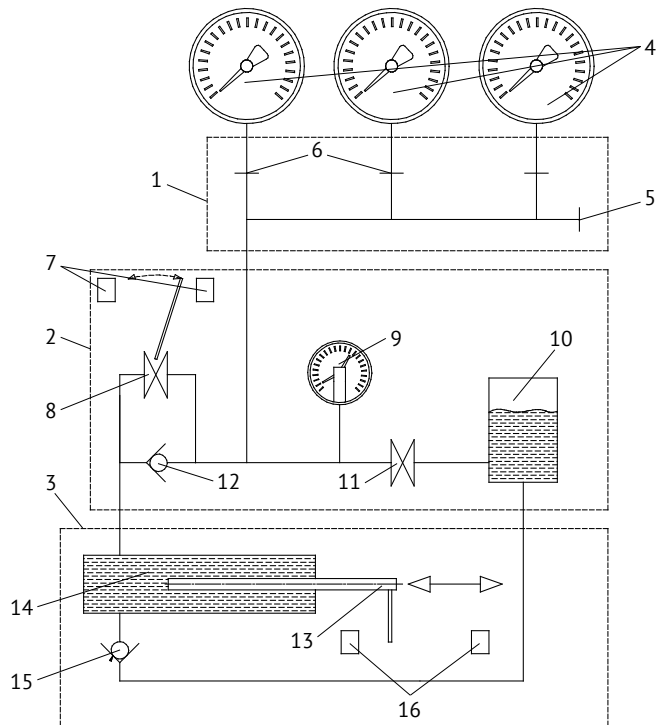

Fig. 6. GSKA hydraulic diagram:
4.11 Regulation mode (is determined by the position of handle 3 of the control cabinet). This mode is used for precise pressure regulation. In this case, a bypassing of the output valve of the system occurs, which leads to a change in the hydraulic diagram (Fig. 6). The plunger (rod) is able to control the pressure in the system, both to the higher side, and to the smaller side. Also, there is a change of the operation mode of the electronic circuit (changing the drive speeds and movement logic of the rod). The pressure regulation occurs within one stroke. When the joystick handle is pushed off the rod moves forward (green LED activates on the joystick unit — rod forward movement), thus increasing the pressure. When the joystick handle is pulled the rod